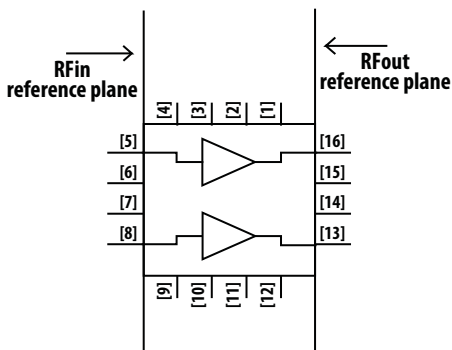

Figure 32.
2. Scattering and noise parameters are measured on 10 mils thick ROGER 4350 with total board thickness of 62 mils. The input reference plane is at the end of the RFin pin and the output reference plane is at the end of the RFout pin as shown in Figure 32.